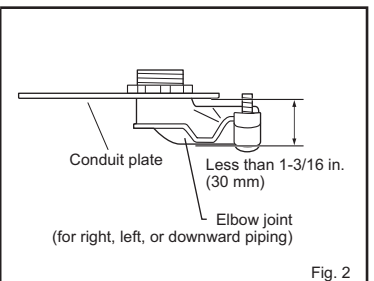

Fig. 2
- 5) Attach straight joint (for rear piping) / elbow joint (for right, left, or downward piping) to conduit plate with lock nut. The thread of the installed straight joint / elbow joint appearing inside should be less than 3/8 in. (10 mm). (Fig. 1) Elbow joint should appear less than 1-3/16 in. (30 mm) outside. (Fig. 2)
- Pull out the drain hose at the back left of the indoor unit. (Fig. 2)
- If the drain hose provided with the indoor unit is too short, connect it with a field-supplied drain hose (I). (Fig. 2)